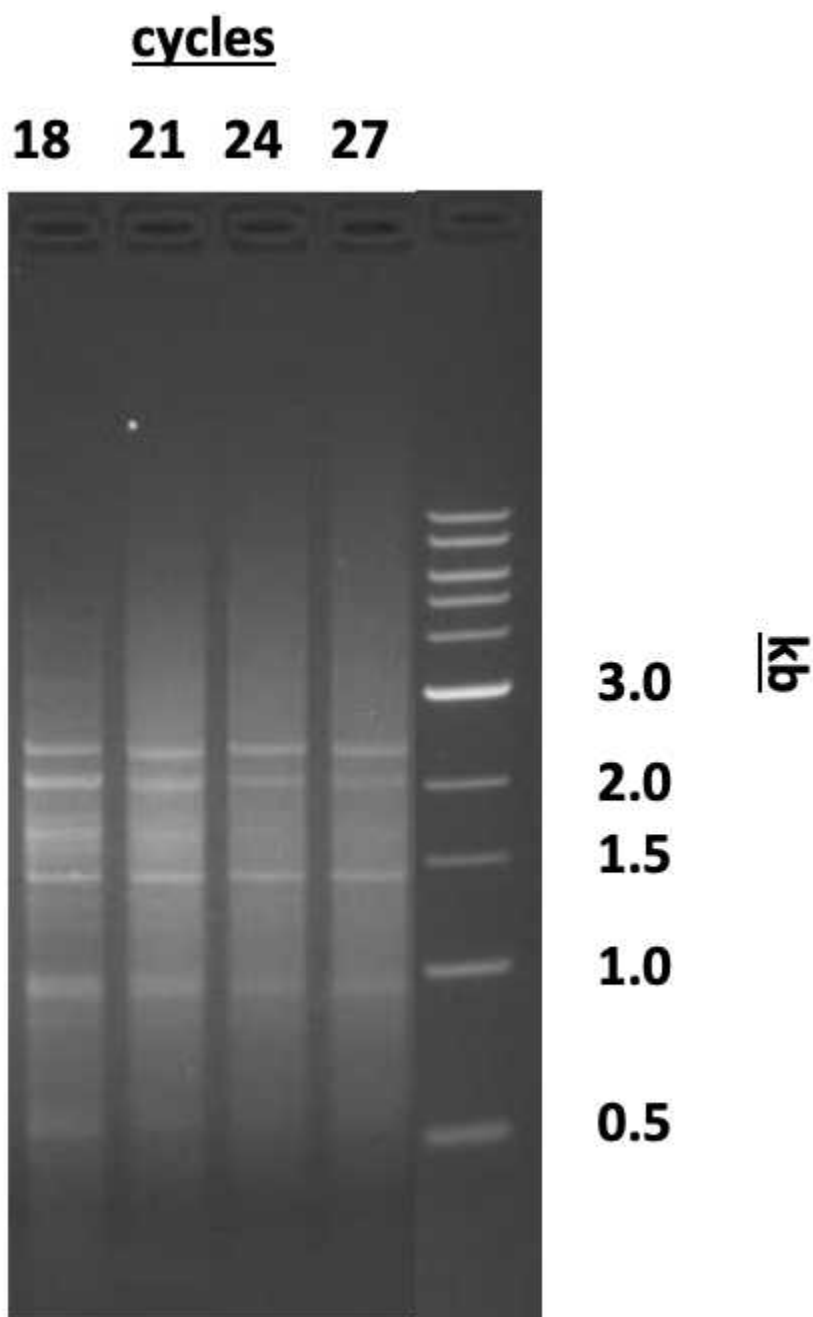

Figure 1. cDNA amplification by LD PCR
**0.1 µg 1 kb DNA size markers** on a 1.2% agarose/EtBr gel in 1X TAE buffer. Compare your results to Figure 1 to confirm that your reactions were successful.